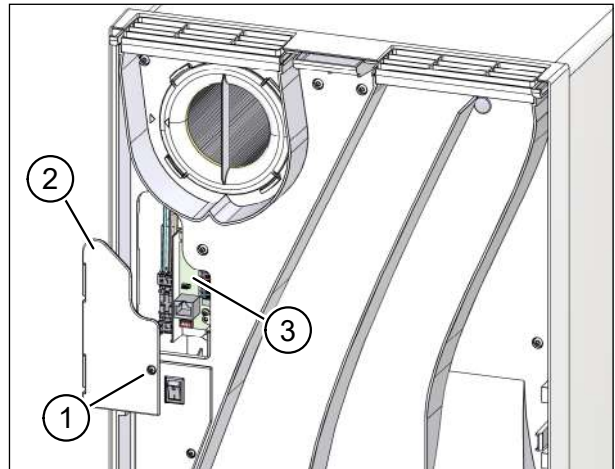

Fig. 23: Removing the electronics compartment cover plate
- ▶ Use the screwdriver to loosen the Torx screw (item 1 in Fig. 23) on the electronics compartment cover plate (item 2 in Fig. 23).
- ▶ Remove the electronics compartment cover plate to access the connection board (item 3 in Fig. 23).
- ▶ Insert the electronics compartment cover plate once more and fix it in position with the Torx screw (see Fig. 23 on page 41).